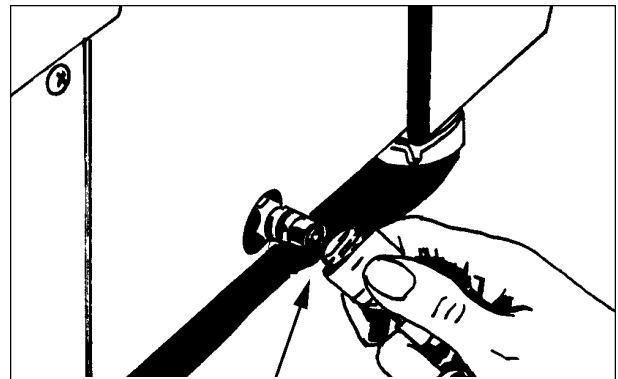

Figure 3
**The Solution Hose Connector** See figure 3